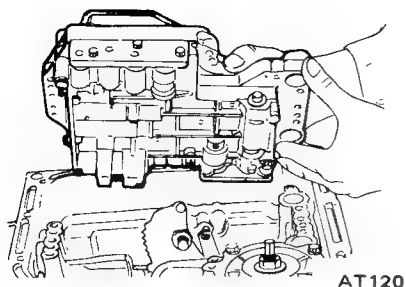

Fig. AT-54 Removing valve body
5. Remove bolts which hold valve body to transmission case. See Figure AT-54.